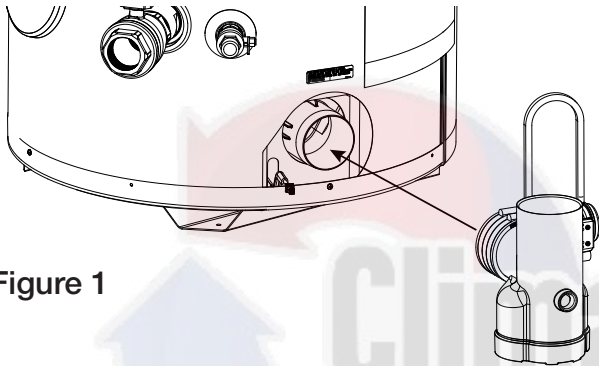

Figure 1
**EXHAUST TEE & NEUTRALIZER** - The exhaust elbow/condensate trap is located in the installation kit along with the bag of neutralizer. Pour the neutralizer into the exhaust tee so that it is in the bottom. Then insert the exhaust tee onto the heater as shown in Figure 1. Using a 5/16" nut driver or ratchet, tighten the exhaust tee onto the heater.